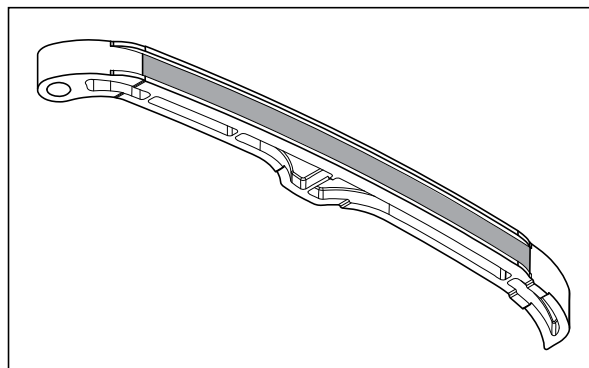

Fig. 3.73
- Inspect the tensioner cam chain for any distortion / damage, cuts or crack. If found any, replace the tensioner with new one. (Fig. 3.73)